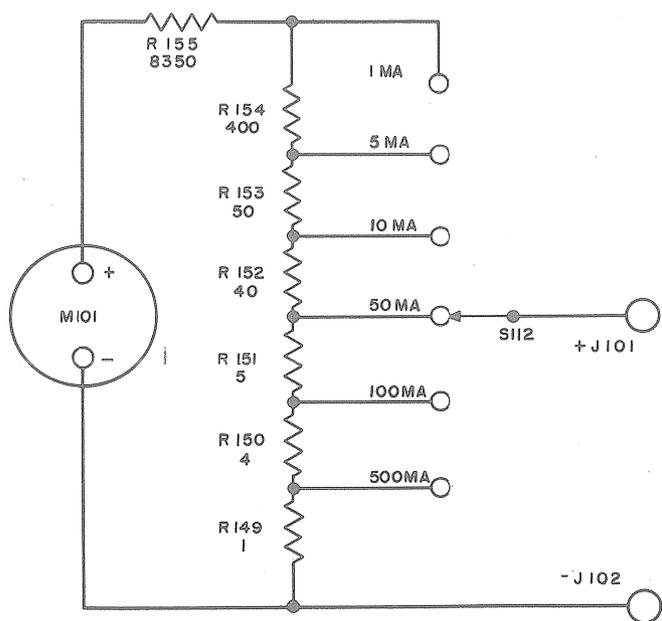

Figure 2-13.—Simplified Milliammeter Circuit.
d. MILLIAMPERES (See Figure 2-13)
- (1) When the FUNCTION selector switch is turned to the MILS position the basic circuit illustrated by Figure 2-13 is set up. Meter